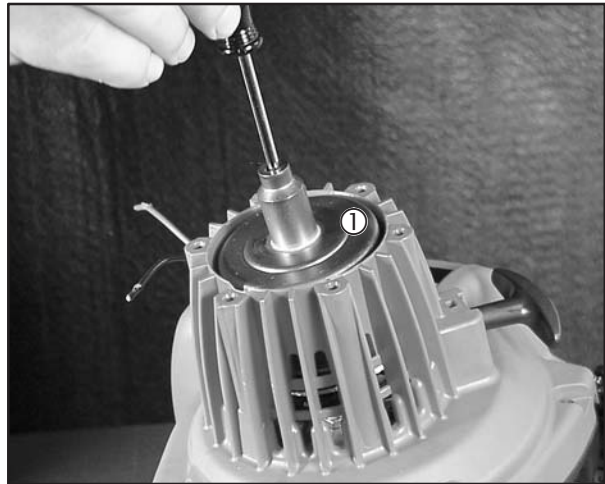

Fig. 8
2. Remove clutch drum (1) using T 15 bit from Briggs & Stratton Tool #19442 Torqux Star Bit Set, Fig. 8.